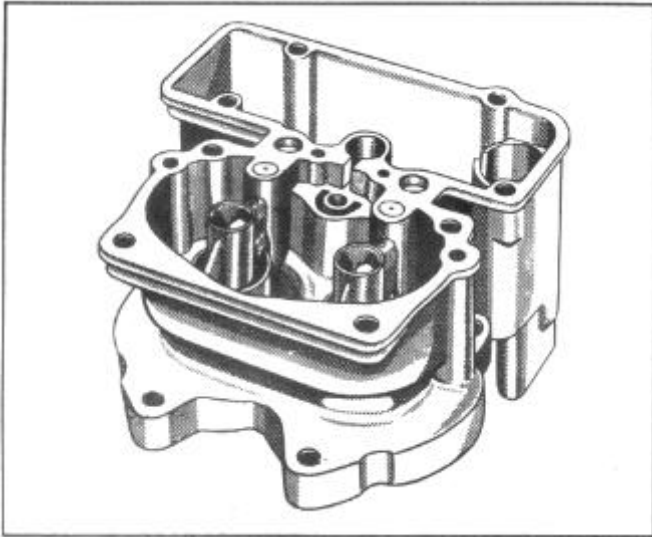

FIGURE 58
6. Remove all parts from the carburetor body, except nozzles and other pressed in parts, Figure 58.